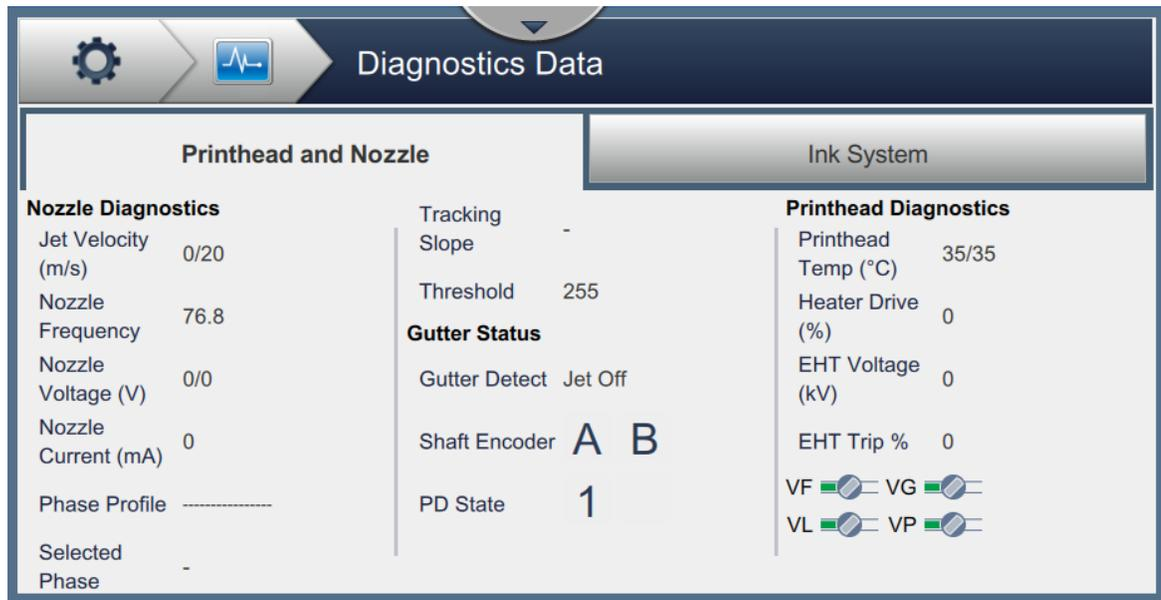

Figure 5-3: Diagnostics Data Screen
1. Touch the  button from the Tools screen. The Diagnostics screen opens. Select the option *Diagnostics Data* as shown in Figure 5-3.